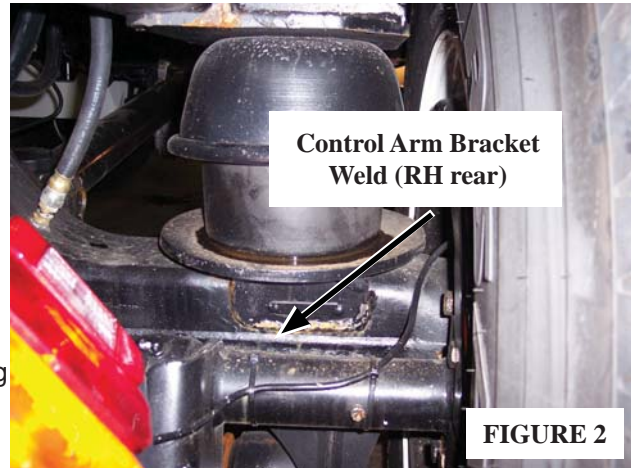

FIGURE 2
- Welds at four (4) lower control arm brackets located at the left and right axle housing. (FIGURE 2)
If necessary, greater access to the lower suspension components (FIGURE 2) may be obtained by placing the sweeper on a suitable chassis lift or by removing the rear wheels.
1. Visually inspect the front and rear weld attachment of the left and right suspension control arm brackets to the axle housing. (FIGURE 2 (RH is shown, LH is similar))